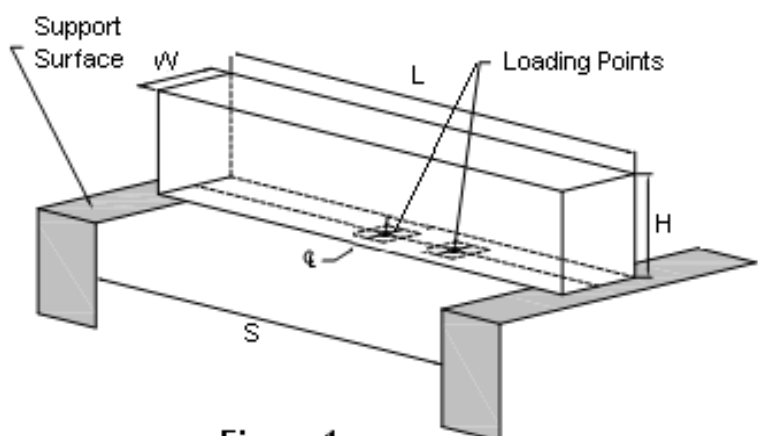

Figure 1
- b. The bridge must span a gap (**S**) of 300mm (hint: bridge must be longer than 300mm), be no longer (**L**) than 400mm, be no taller (**H**) than 75 mm above the support surface, no wider (**W**) than 80mm and no narrower than 30mm. No part of the bridge may extend below the support surface (see **Figure 1**).
- c. The bridge must be constructed to provide support for the loading plate at the center of the bridge **and** at a point 60mm from the center of the bridge, (see **Figure 1**).